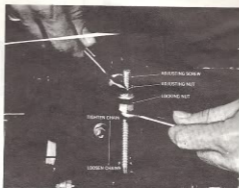

Figure 11
2. Loosen locking nut several turns and turn adjusting nut until chain is adjusted properly. (See Fig. 11)
3. Retighten locking nut and (4) screws.